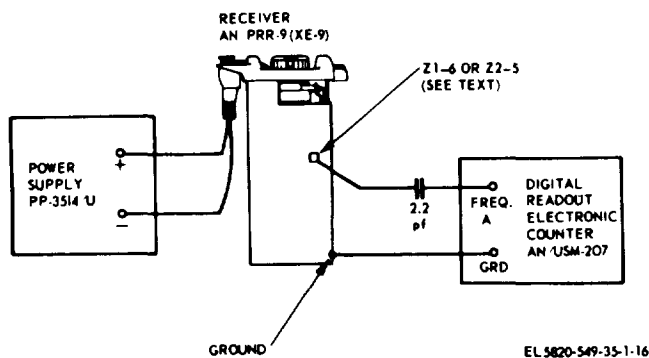

Figure 4-7. AN/PRR-9(XE-P) oscillator tests.
- Connect the test equipment as shown in figure 4-7.